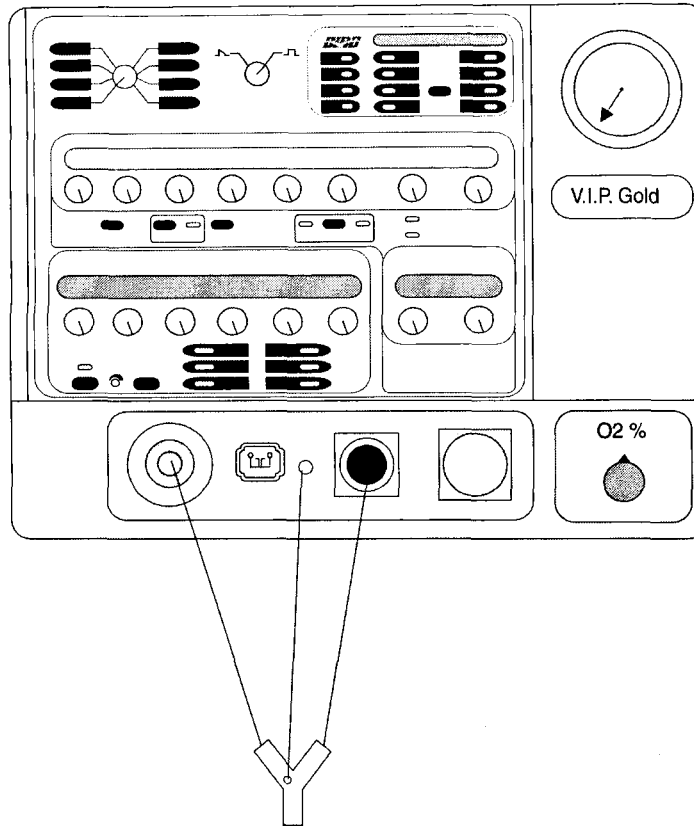

Figure 5.11
31.1 Attach test circuit, P/N 10383 to ventilator as in Figure 5.11, except for the test lung.